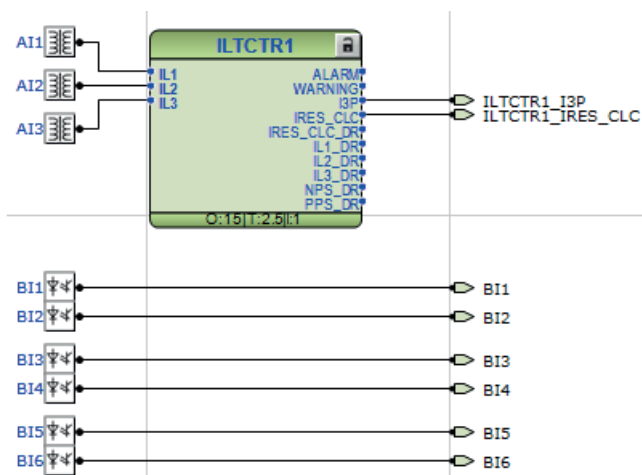
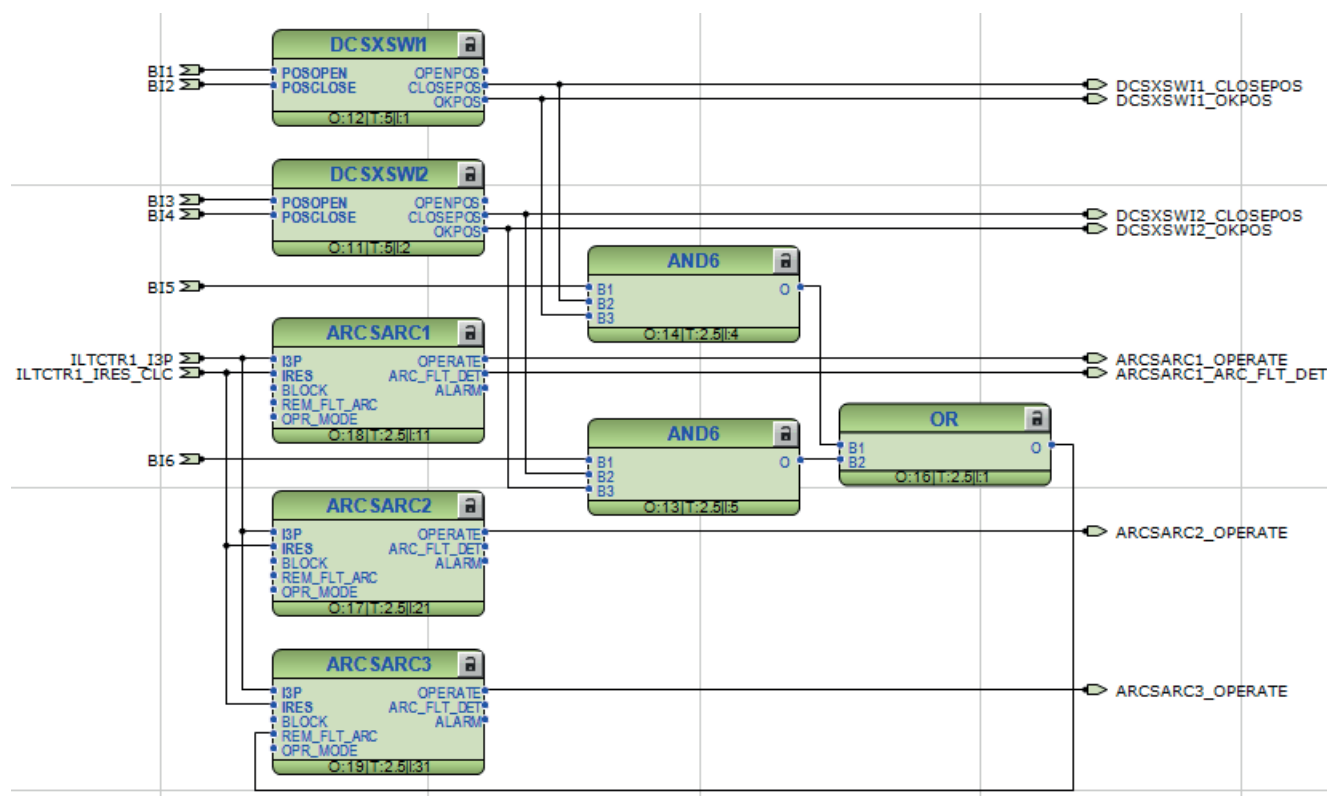
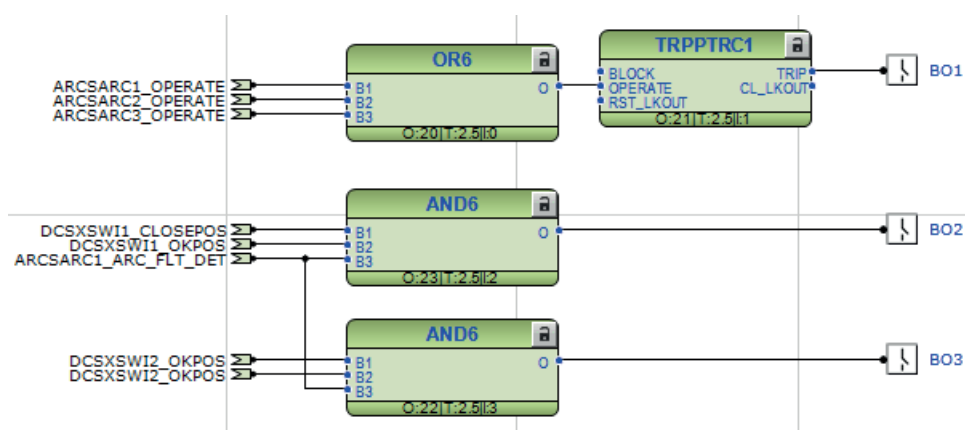

Figure 75: Relay inputs and preprocessing connections
Figure 76: Application function block connections
Figure 77: Relay output connections
The relay configuration is implemented with Application Configuration in PCM600 and it is shown Figure 75, Figure 76 and Figure 77. The functionality implements the conceptual logic, but it is designed taking into account the relay's function blocks and their features.
- 1) Arc light sensor inputs ARC1...4 are always internally routed to ARCSARC1...4 function blocks, respectively. These inputs are not visible in Figure 75.
The configuration also requires other dedicated functions which are listed in Table 171. Additionally, some logic gates are needed for implementing the necessary logic. These are visible in Figure 76 and Figure 77.